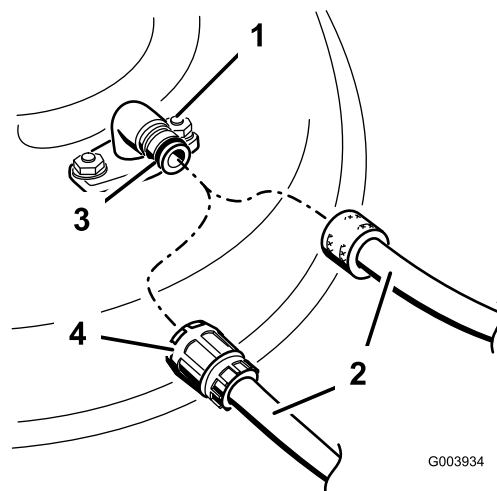

Figure 61
3. Attach the hose coupling to the end of the mower washout fitting, and turn the water on high (Figure 61).